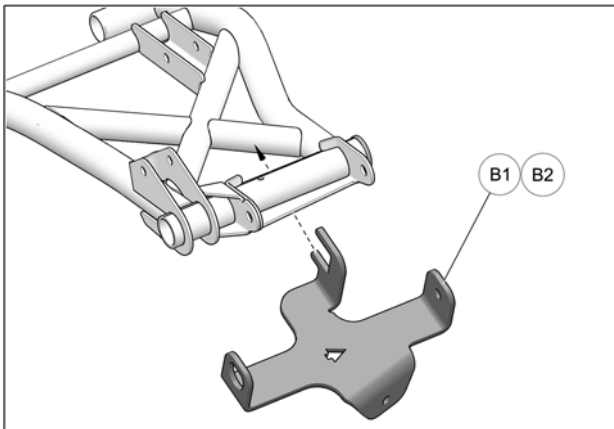

Fig. 5
5. Hook anchor bracket (B1-B2) up to lower suspension arm support crossmember. See Fig. 5